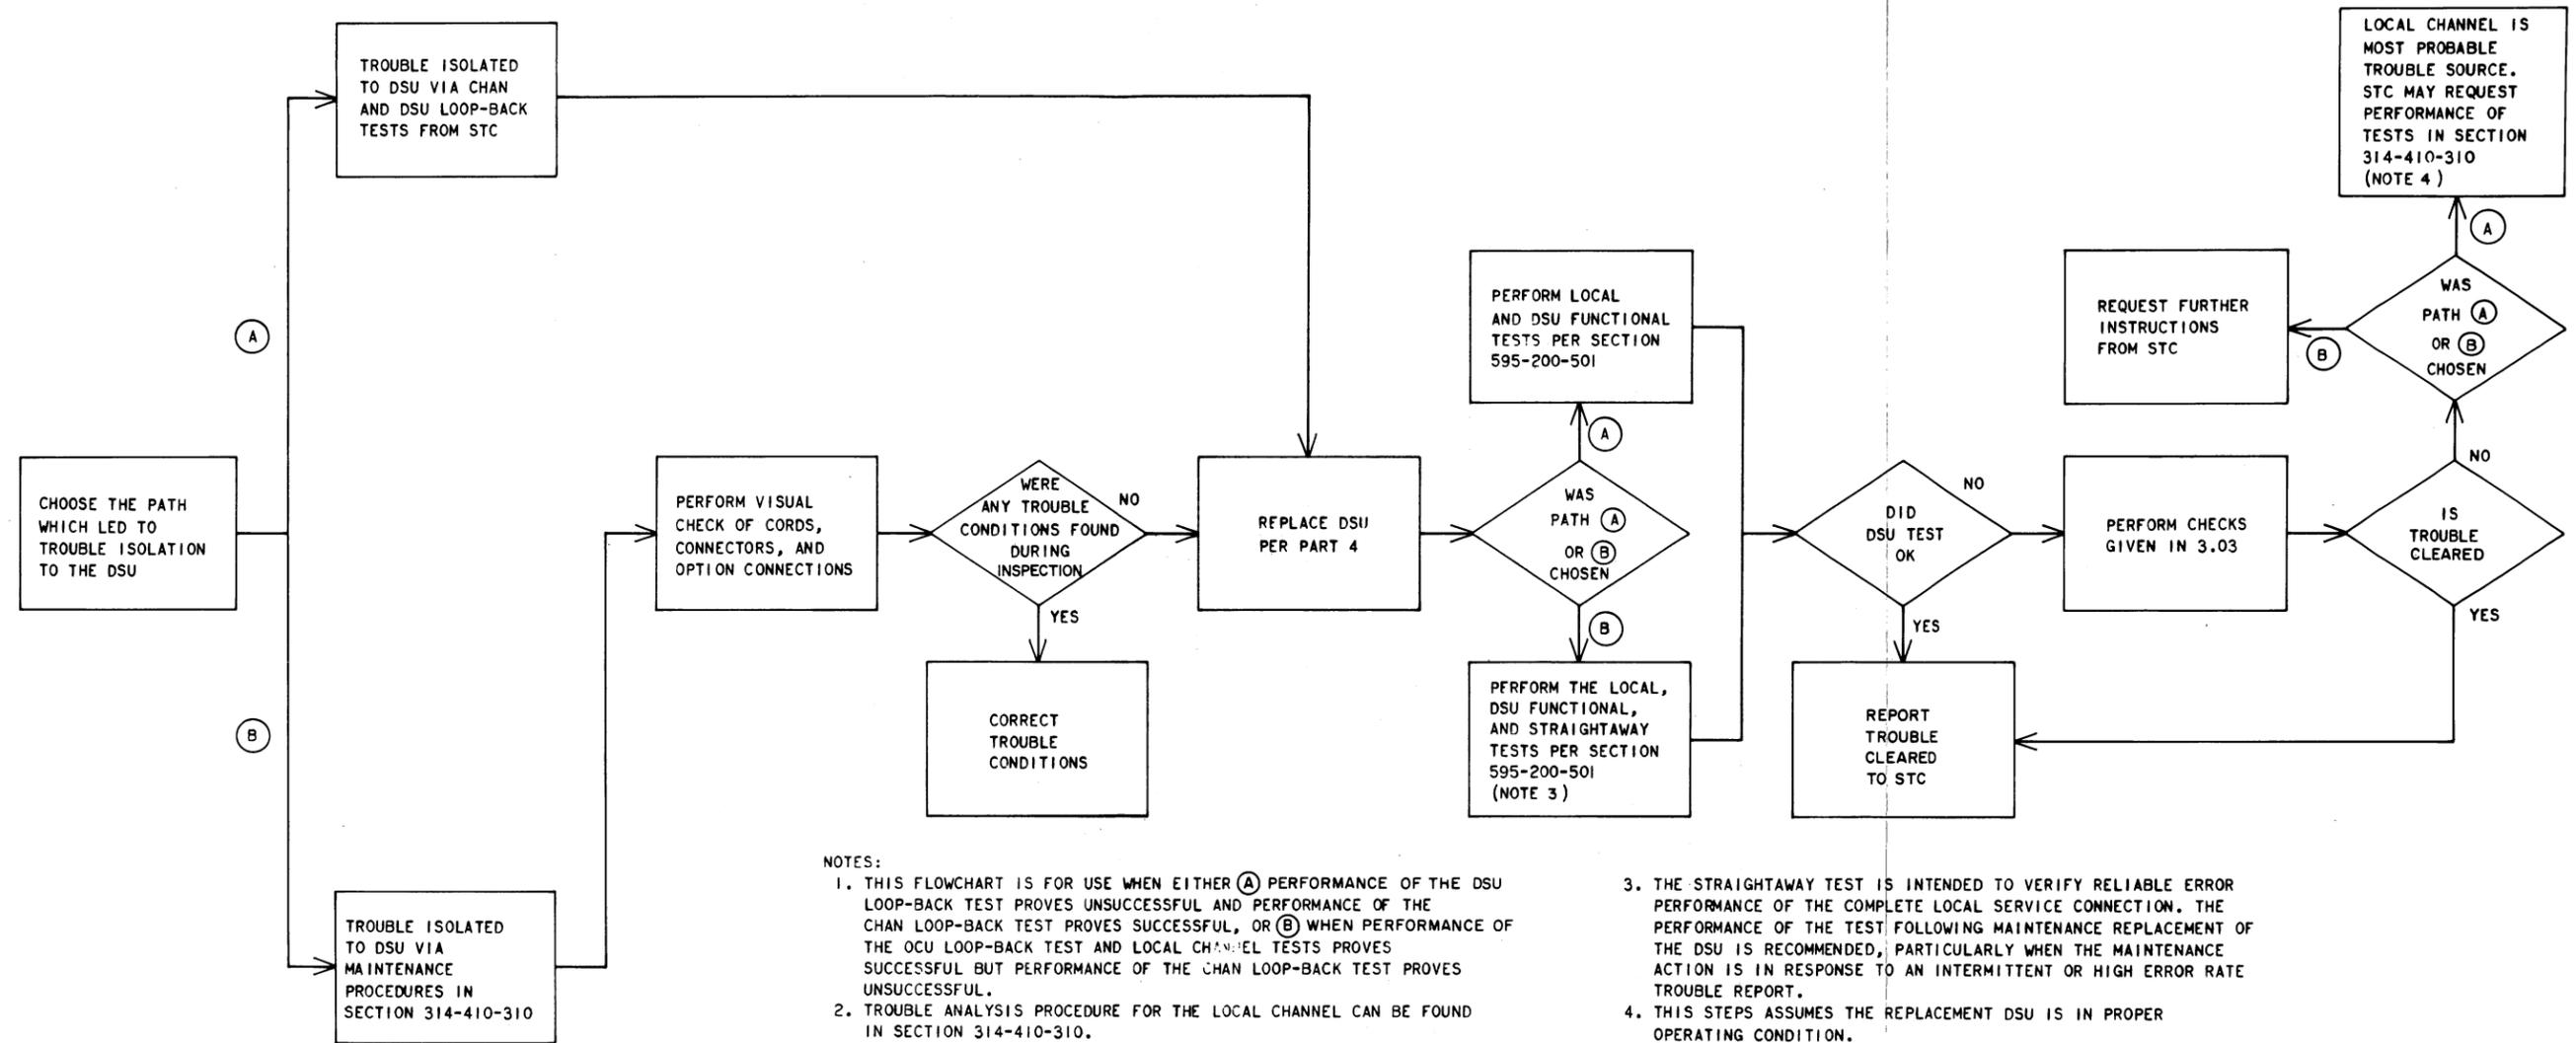

Fig. 1—Trouble-Clearing Procedure for 500B—Type DSU
**3.01** When investigating a trouble report, proceed as indicated in Fig. 1 and the following text. Upon arrival at the customer location, the TELCO employee should make a quick visual inspection of the DSU. Verify that the PWR light-emitting diode (LED) is illuminated and that the switch on the faceplate is in the center position. Check also for other possible causes of trouble, such as cable and connector defects. If this initial check does not reveal a trouble condition, the DSU is immediately assumed to be defective and must be replaced as described in Part 4 of this Section.